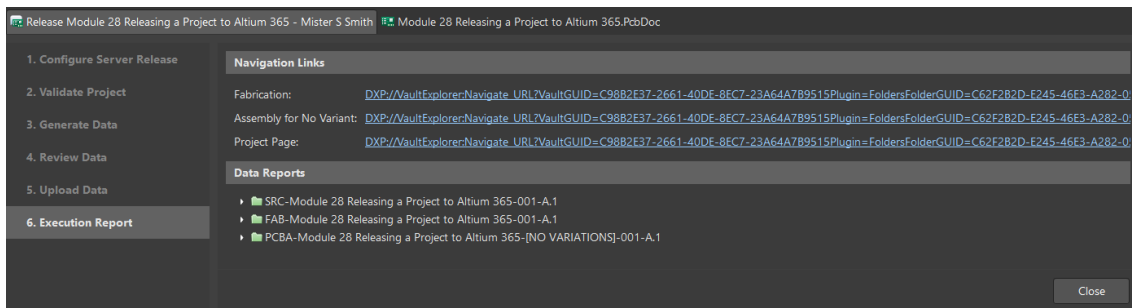

Figure 7. Execution report
28. **In Step 5 of the Release Process, as shown in Figure 7, will now upload the data to the Server (Altium A365 Cloud).**
29. **Step 6 of the Release Process, as shown in Figure 7, the Execution report, indicates the release Process is now complete.**